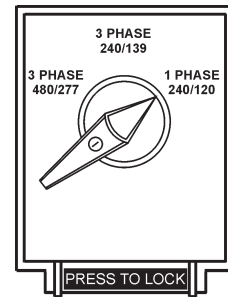

Figure 41. Voltage Selector Switch
5. Place the **voltage selector switch** in the desired voltage position (Figure 41).